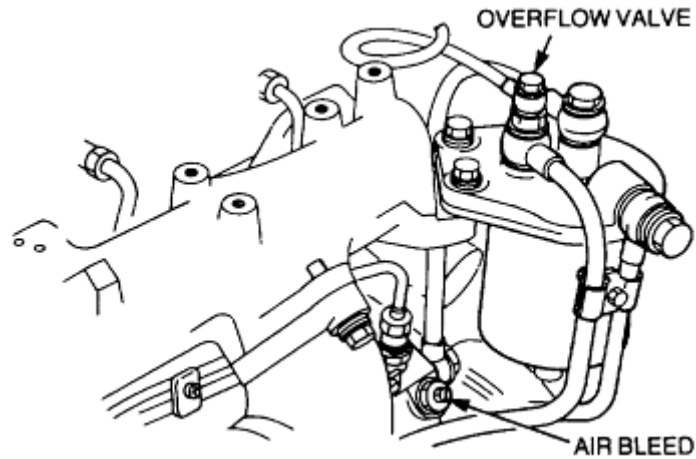

Figure 43 Bleeding the Fuel System
- b. Loosen the overflow valve on the fuel filter adaptor and continue operating the primer until a solid stream of fuel flows from the valve (Figure 43).